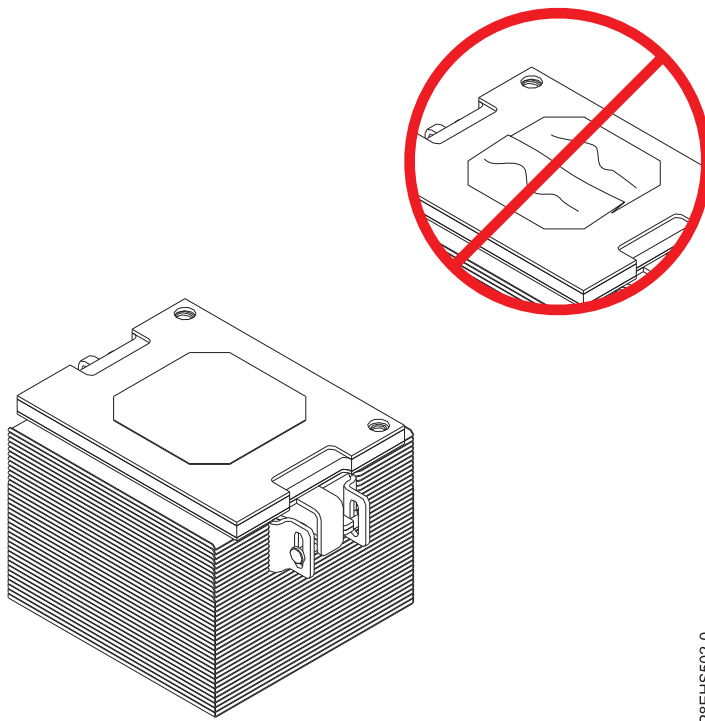
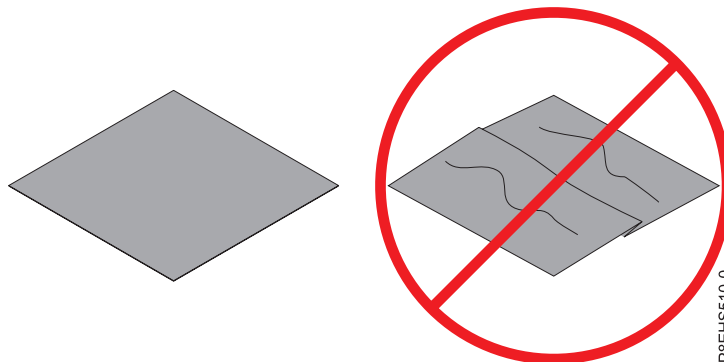

Figure 77. Inspecting the silver-colored thermal interface material
Figure 78. Inspecting the gray-colored thermal interface material
14. Inspect the thermal interface material (TIM) for visible signs of damage, as shown in Figure 77 or Figure 78. If you see folds, tears, bends, or if you have doubts about the TIM, replace it.